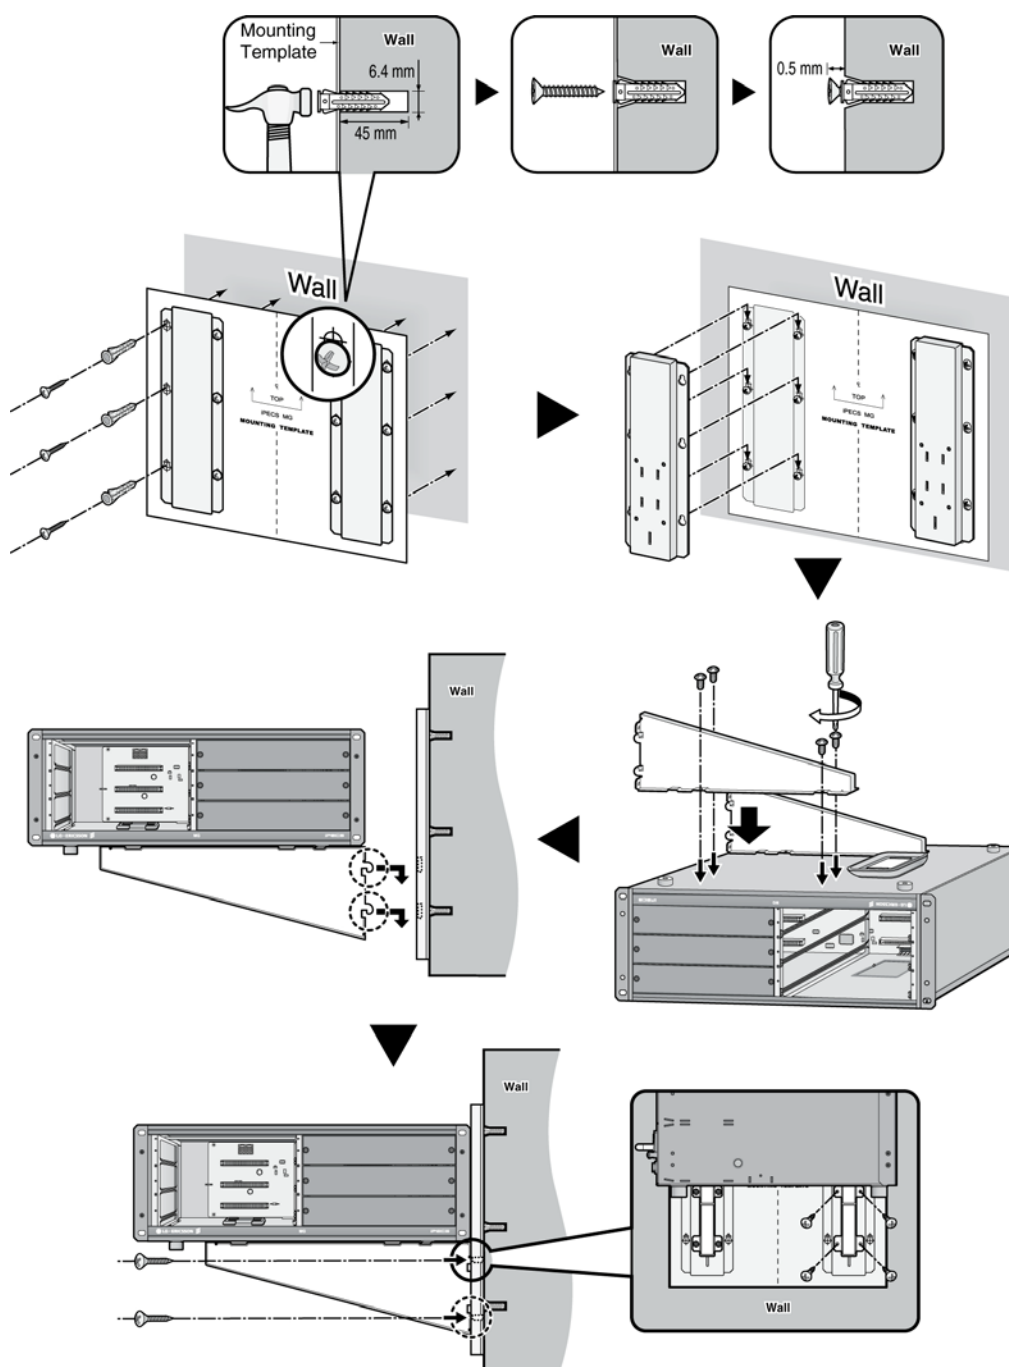

Figure 2.5.1A Wall Mounting
2. Install 12 anchor plugs into the wall using the mounting template (Figure 2.5.1A).